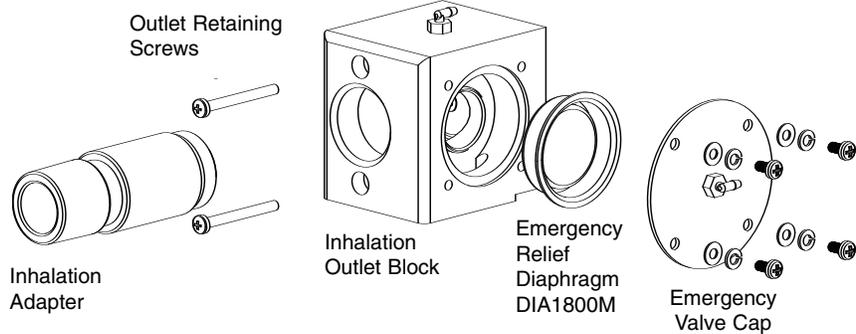

Figure 2-5 Emergency Relief Diaphragm Replacement
- 2 Remove the Inhalation Outlet Assembly by removing the two retaining screws, see Figure 2-5 above.
- 2** Remove the Inhalation Adapter from the Inhalation Outlet Assembly, see Figure 2-5.